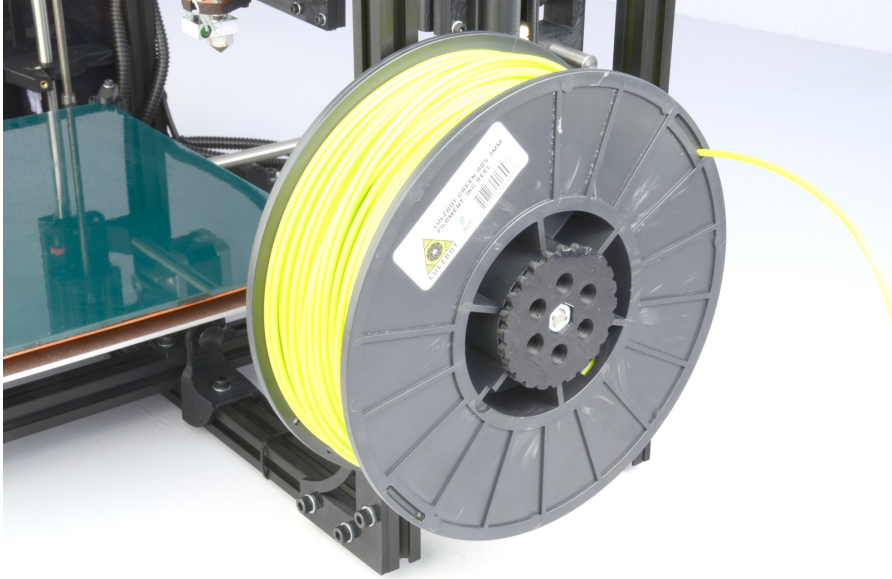

Figure 2.2: Filament spool mount front
2. Thread the reel spindle into the filament holder mounted on the lower right hand side of the TAZ 3D Printer (fig. 2.2, page 35). Turn the spindle handle clockwise until it snugs up against the reel and then turn it back one quarter of a turn. This will allow the reel to easily turn but not turn too freely that it would allow the filament to unravel.
5. When changing filament, slide the opposite end of the filament through one of the holes in hub of the filament spool. This will keep the filament from unwinding from the spool (fig. 2.2, page 35).